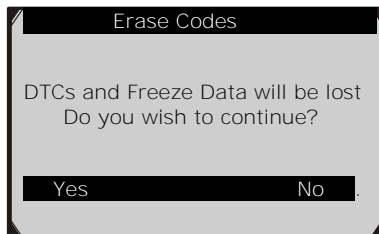

Figure 5.7
3. If you press **Yes** function key or **OK** button, a warning message will come up asking your confirmation. (Figure 5.7)